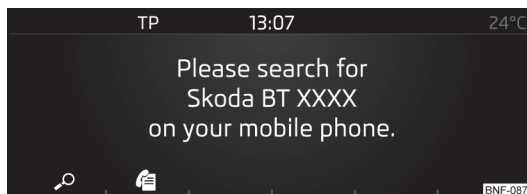

Fig. 109
- › If there is **no** phone connected to the device, then press the button **PHONE** → Press » Fig. 109
- › If there is **no** phone connected to the device, press button **PHONE** → Press » Fig. 109